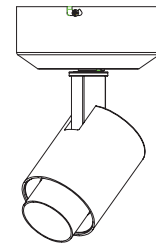

Fig 4
Step 3: Reinstall front cap back in place. Ensure torsion spring securely goes back into spring slot on fixture. (See Fig 4)